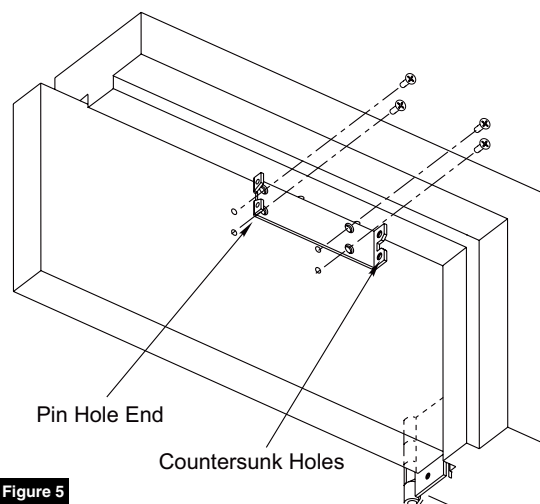

Figure 5
2. Install Closer Bracket. (Figure 5)